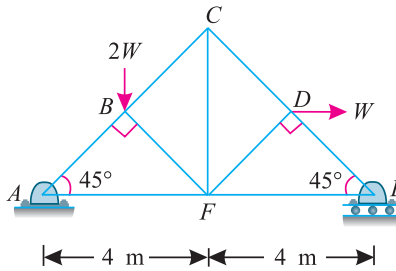

Fig. 14.41
**Example 14.16.** A truss of 8 m span and 4 m height is loaded as shown in Fig. 14.41.